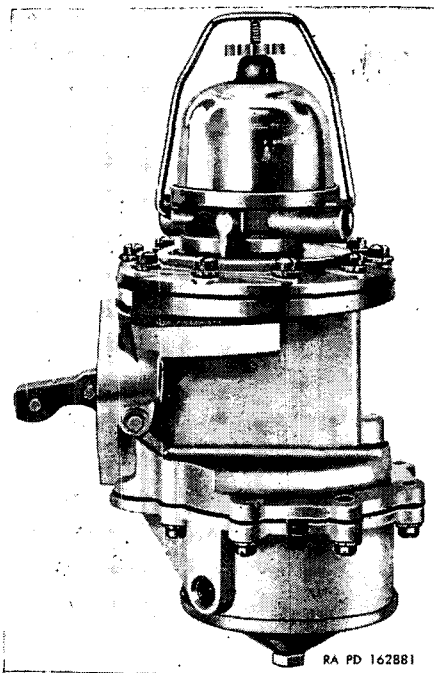

Figure 55. Fuel and vacuum pump, series BZ.
- (1) Mark edges of fuel cover and body diaphragm flanges of series BZ fuel and vacuum pump (fig. 55) with a file. The parts may then be assembled in the same relative position. Note that the fuel diaphragm is symmetrical and that the vacuum diaphragm has bulges where the screw holes occur.